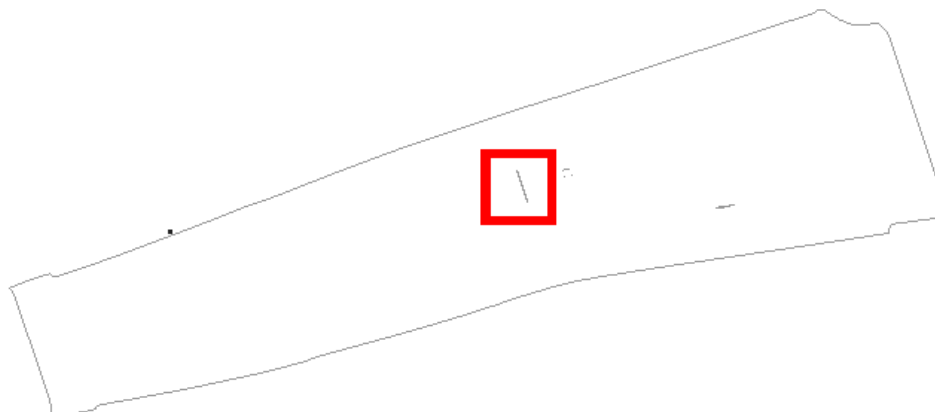

Figure 21
- 6 . Visualize the mesh again using **Mesh->View mesh boundary** and magnify the zone indicated in Figure 21.